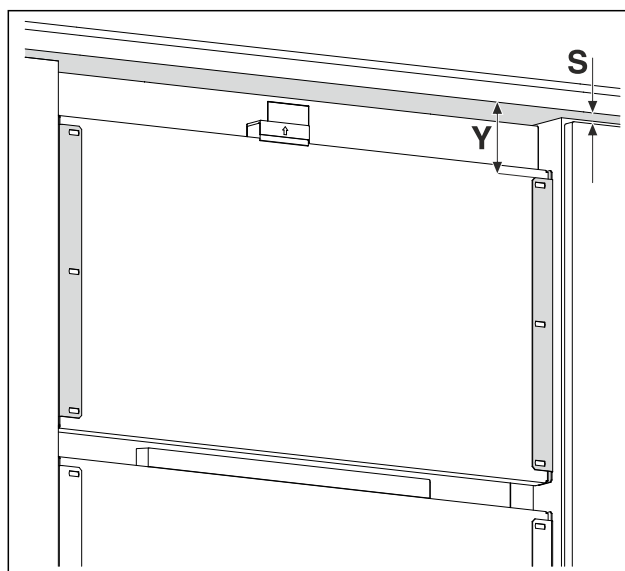

Fig. 15 Example illustration
- ▶ Measure the distance Fig. 15 (Y) from the lower edge of the unit front to the retaining bracket.
- ▶ Measure the distance Fig. 15 (S) from the lower edge of the unit front to the upper edge of the unit door.